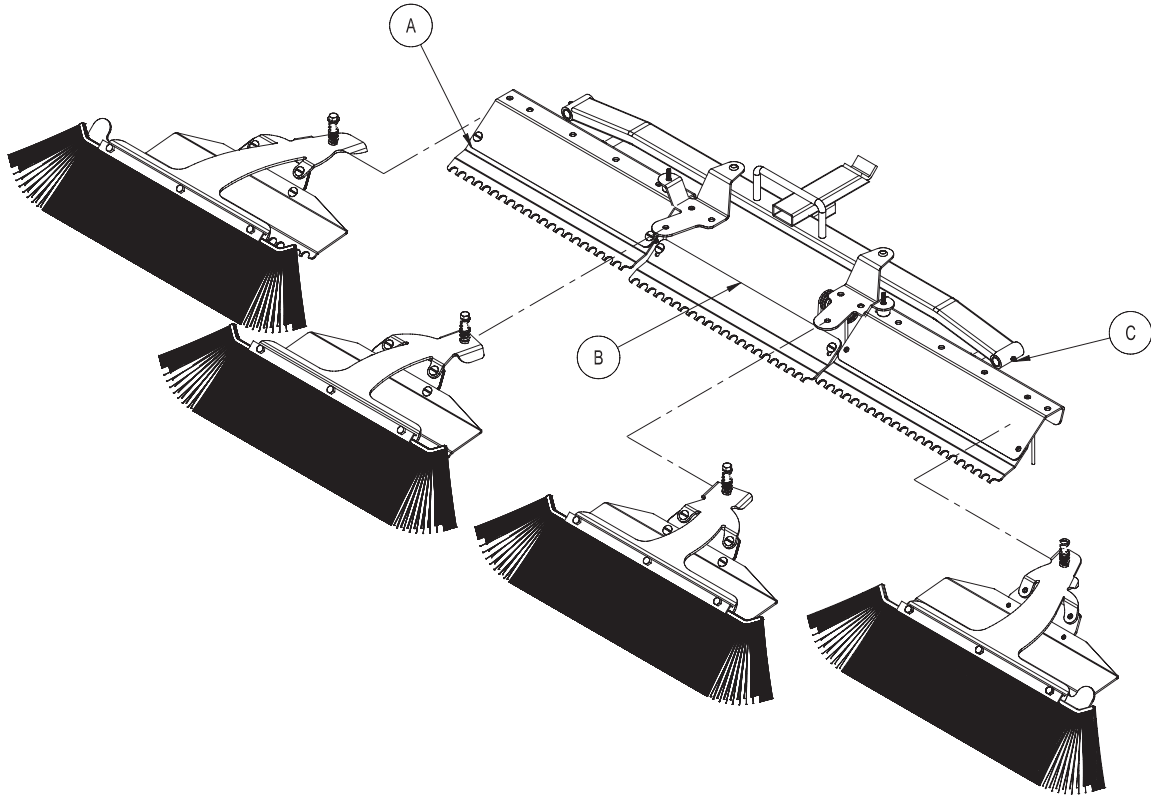

Fig. 1
1. Before assembly please note the two Brush/Finish Blade Assemblies (Refs A & C in Fig.1) that are mounted on the outside (RH & LH) have flat washers that are between the Brush Arms (Refs 2 & 21) and the Brush Arm Mount (Ref 6).
2. Also please note the placement of the Brush/Finish Blade Assemblies as illustrated in Fig 1. They must be mounted as illustrated to work as intended.
3. Begin assembling your **ProBrush TOURNAMENT RAKE** by inserting the Outside and Center Groomer Blade Assemblies (Refs A, B & C in Fig.1) in their locations as illustrated. Secure the Outside Assemblies with the $\frac{1}{4}$ " Pin (Ref 11) and the Center Assembly with the $\frac{1}{4}$ " x $1\frac{3}{4}$ " Hex Bolt and Nylon Lock Nut (Ref 31).